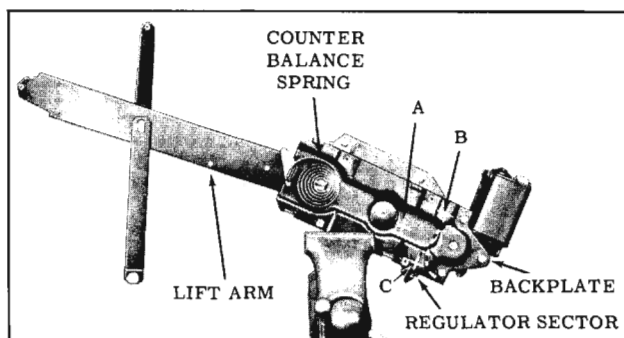

Fig. 16-35 Regulator and Motor Assembly
- Remove front door electric window regulator assembly from door and clamp it in a vise. (Fig. 16-35)
4. Remove motor attaching bolts and remove motor assembly from regulator. (Fig. 16-35)